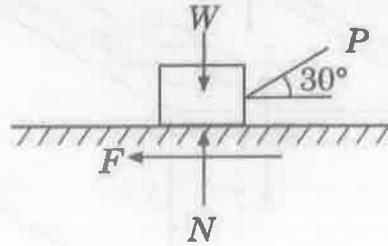

Fig 11
15. (a) A block weighing 2500 N rests on a level horizontal plane for which coefficient of friction is 0.20. This block is pulled by a force of 1000 N acting at an angle of 30° to the horizontal as shown in Fig 11. Find the velocity of the block after it moves 30 m starting from rest. If the force of 1000 N is then removed, how much further will it move? Use work-energy method.